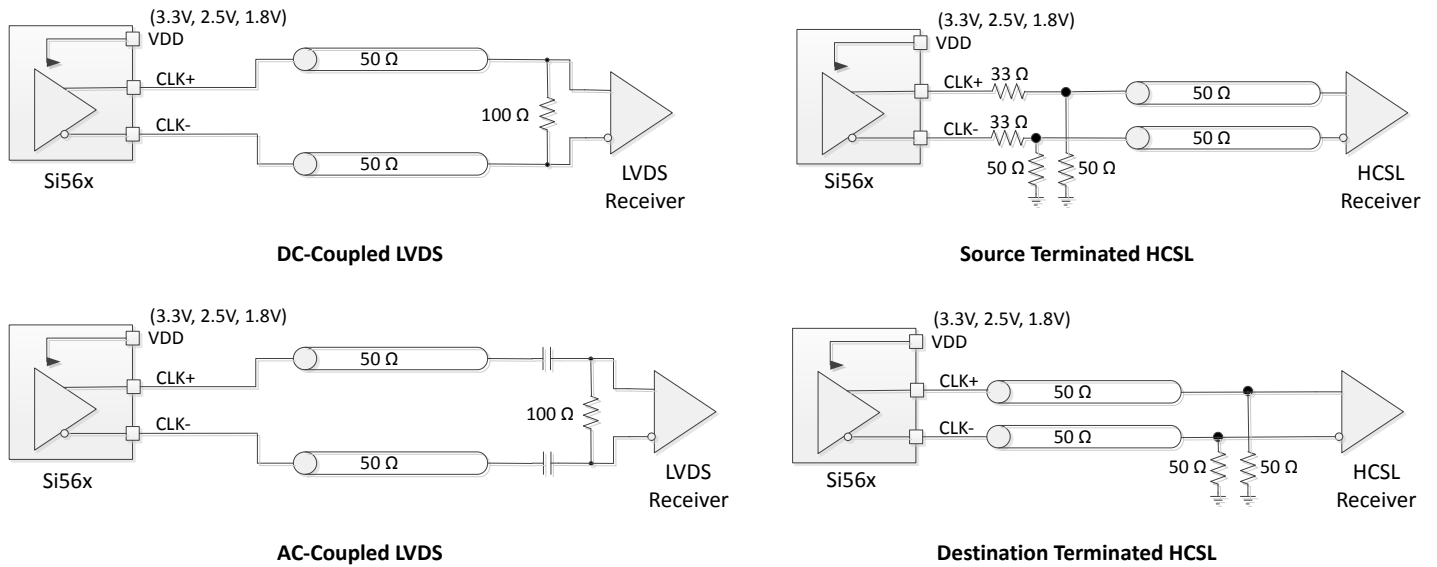

Figure 4.2. LVDS and HCSL Output Terminations
- Rterm = 100 Ω (differential) (see Figure 4.2).
- Rterm = 50 Ω to GND (see Figure 4.2).